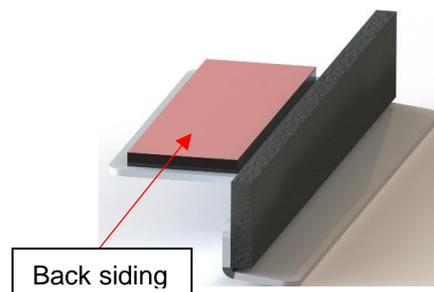

Figure 99
- 1) Locate the two wiper brackets that are provided in the plastic bag. (Figure 99)
- 2) Remove the siding on the double-sided tape of one wiper bracket. (Figure 99)